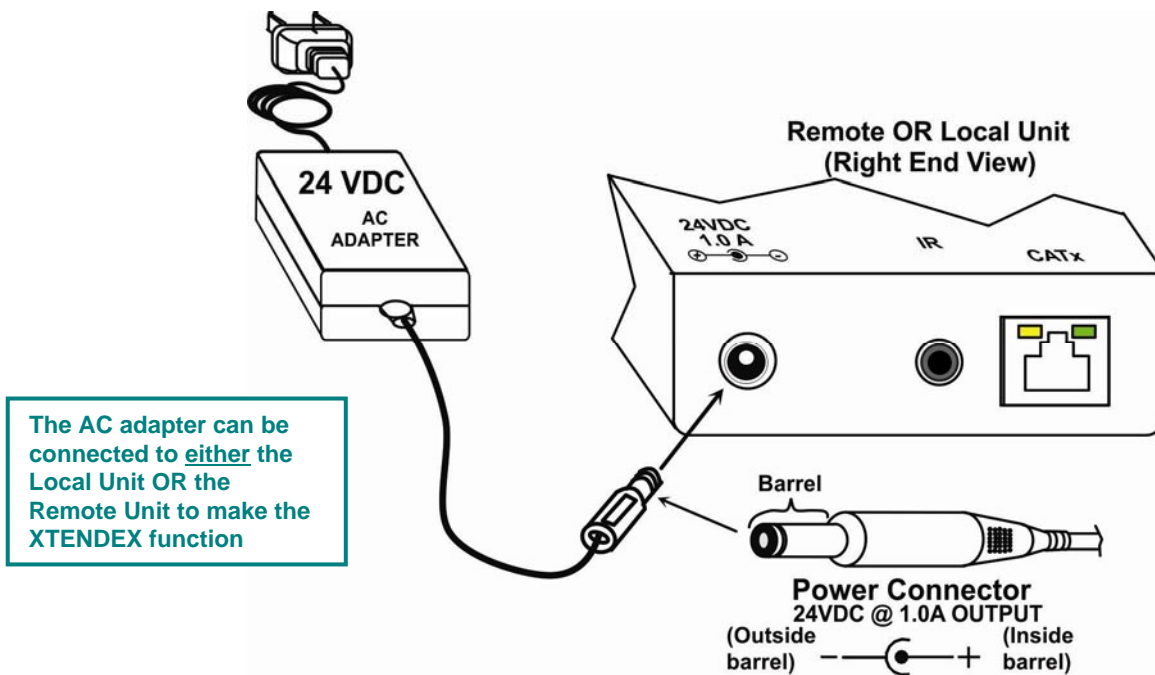

Figure 7- Connect the AC adapter to either the Remote Unit or the Local Unit
2. Connect an AC adapter power connector to the 24VDC port on **either** the Remote Unit or the Local Unit. Plug the AC adapter into a power outlet. The green LED on the RJ45 connector of both the Remote and Local Units should illuminate, indicating that a proper power connection has been made to them. (See Figure 7)